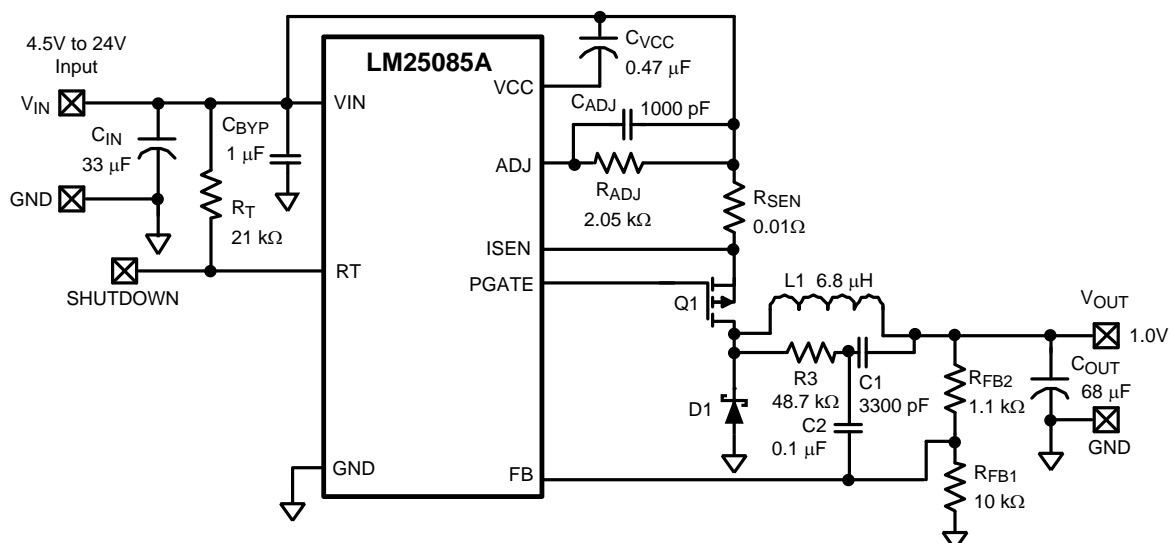

Figure 28. Example Circuit
The final circuit is shown in Figure 28, and its performance is presented in Figure 29 through Figure 32. The measured efficiencies shown in Figure 29 are typical for a buck converter producing a low output voltage (1V).
The minimum ripple configuration, using C1, C2 and R3, used in the example circuit Figure 28, results in a low ripple amplitude at  $V_{OUT}$  determined mainly by the characteristics of the output capacitor and the ripple current in L1. This configuration allows multiple ceramic capacitors to be used for  $V_{OUT}$  if the output voltage is provided to several places on the PC board. However, if a slightly higher level of ripple at  $V_{OUT}$  is acceptable in the application, and distributed capacitance is not used, the ripple required for the FB comparator pin can be generated with fewer external components using the circuits shown below.
**Reduced ripple configuration:** In Figure 33, R3, C1 and C2 are removed (compared to Figure 28). A low value resistor (R4) is added in series with  $C_{OUT}$ , and a capacitor (Cff) is added across  $R_{FB2}$ . Ripple is generated at  $V_{OUT}$  by the inductor's ripple current flowing through R4, and that ripple voltage is passed to the FB pin via Cff. The ripple at  $V_{OUT}$  can be set as low as 25 mVp-p since it is not attenuated by  $R_{FB2}$  and  $R_{FB1}$ . The minimum value for R4 is calculated from: